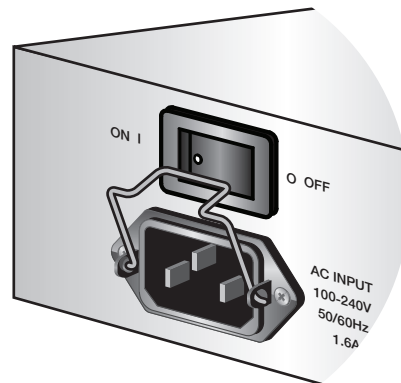

Figure 30. Power cord retaining clip in the up position
1. Position the power cord retaining clip in the up position, as shown in Figure 30.